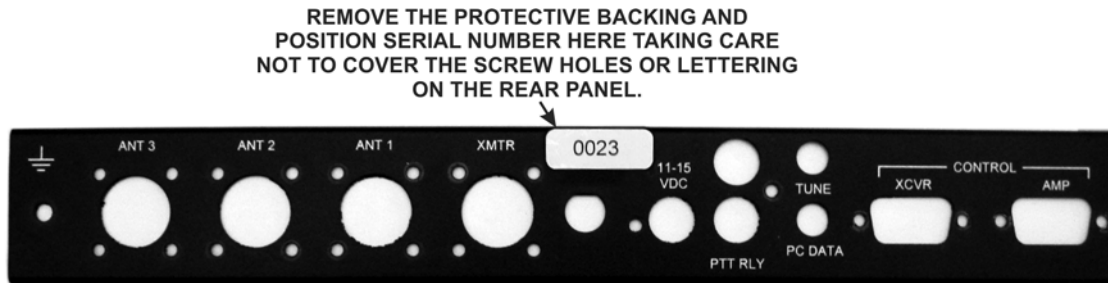

Figure 19. Attaching Serial Number to Rear Panel.
- Remove the protective backing from the serial number label and press it onto the rear panel as shown in Figure 19. Be careful not to cover the screw holes or lettering on the rear panel.